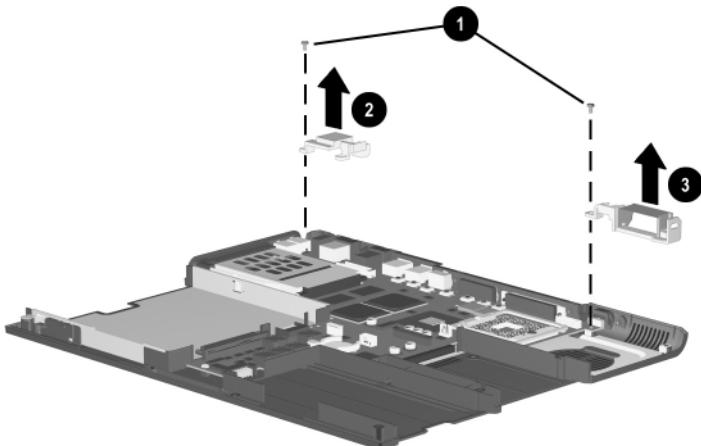

Figure 5-32. Removing the Display Supports
3. Remove the two PM2.0 × 8.0 screws ① that secure the left ② and right ③ display supports to the base enclosure (Figure 5-32).